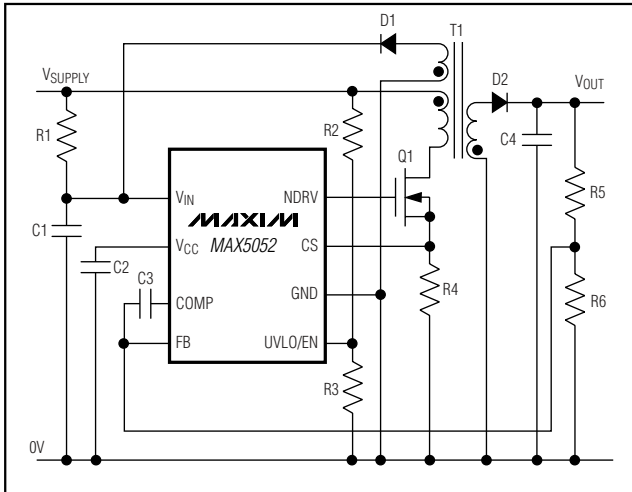
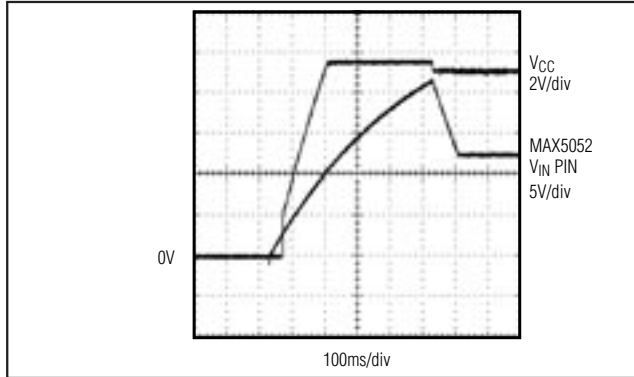

Figure 1. Nonisolated Power Supply with Programmable Input-Supply Start Voltage
Figure 2.  $V_{IN}$  and  $V_{CC}$  During Startup when Using the MAX5052 in Bootstrapped Mode (Figure 1)
**Note 3:** The MAX5052 is intended for use in universal input power supplies. The internal clamp circuit is used to prevent the bootstrap capacitor (C1 in Figure 1) from charging to a voltage beyond the absolute maximum rating of the device when EN/UVLO is low. The maximum current to  $V_{IN}$  (hence to clamp) when UVLO is low (device in shutdown) must be externally limited to 2mA, max. Clamp currents higher than 2mA may result in clamp voltage higher than 30V, thus exceeding the absolute maximum rating for  $V_{IN}$ . For the MAX5053, do not exceed the 24V maximum operating voltage of the device.
Power supplies designed with the MAX5052 use a high-value startup resistor, R1, that charges a reservoir capacitor, C1 (see Figure 1). During this initial period, while the voltage is less than the internal bootstrap UVLO threshold, the device typically consumes only 45μA of quiescent current. This low startup current and the large bootstrap UVLO hysteresis helps to minimize
Use this UVLO function to program the input-supply start voltage. For example, a reasonable start voltage for a 36V to 72V telecom range might be set at 34V. Calculate the divider resistor values, R2 and R3 (see Figure 1) by using the following formulas:
Normally  $V_{IN}$  is derived from a tertiary winding of the transformer. However, at startup there is no energy delivered through the transformer, hence, a special bootstrap sequence is required. Figure 2 shows the voltages on  $V_{IN}$  and  $V_{CC}$  during startup. Initially, both  $V_{IN}$  and  $V_{CC}$  are 0V. After the line voltage is applied, C1 charges through the startup resistor, R1, to an intermediate voltage. At this point, the internal regulator begins charging C2 (see Figure 1). The MAX5052 uses only 45μA of the current supplied by R1, and the remaining input current charges C1 and C2. The charging of C2 stops when the  $V_{CC}$  voltage reaches approximately 9.5V, while the voltage across C1 continues rising until it reaches the wake-up level of 21.6V. Once  $V_{IN}$  exceeds the bootstrap UVLO threshold, NDRV begins switching the MOSFET and transfers energy to the secondary and tertiary outputs. If the voltage on the tertiary output builds to higher than 9.9V (the bootstrap UVLO lower threshold), then startup has been accomplished and sustained operation commences.
The  $V_{IN}$  bypass capacitor, C1, supplies current immediately after wake up (see Figure 1). The size of C1 and the connection configuration of the tertiary winding determine the number of cycles available for startup. Large values of C1 increase the startup time but also supply gate charge for more cycles during initial start-up. If the value of C1 is too small,  $V_{IN}$  drops below 9.9V because NDRV does not have enough time to switch and build up sufficient voltage across the tertiary output which powers the device. The device goes back into UVLO and does not start. Use a low-leakage capacitor for C1 and C2.
The above startup method is applicable to a circuit similar to the one shown in Figure 1. In this circuit, the tertiary winding has the same phase as the output windings. Thus, the voltage on the tertiary winding at any given time is proportional to the output voltage and goes through the same soft-start period as the output voltage. The minimum discharge voltage of C1 from 22V to 10V must be greater than the soft-start time of 60ms.
The MAX5052/MAX5053 include an internal error amplifier that can be used to regulate the output voltage in the case of a nonisolated power supply (see Figure 1) Calculate the output voltage using the following equation: